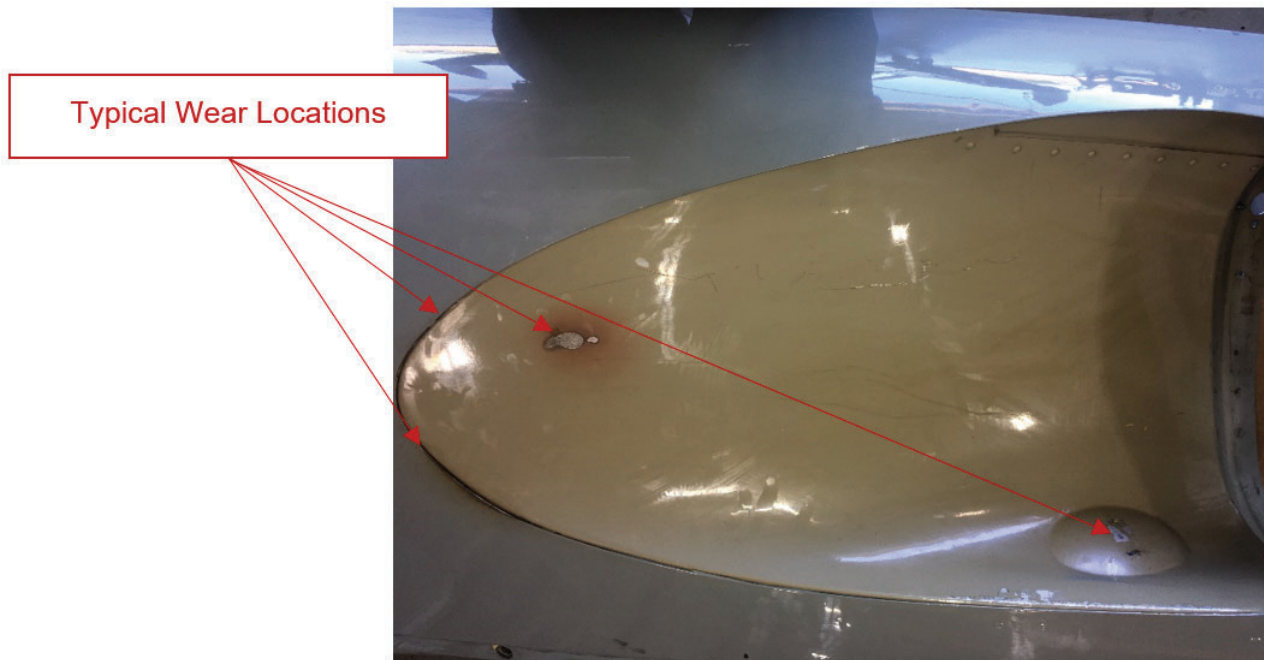

Figure 1 Lower Right Cowl - Exterior
1. Using a flashlight visually inspect cowling and exhaust for wear; areas of reduced clearance are shown in Figure 1.